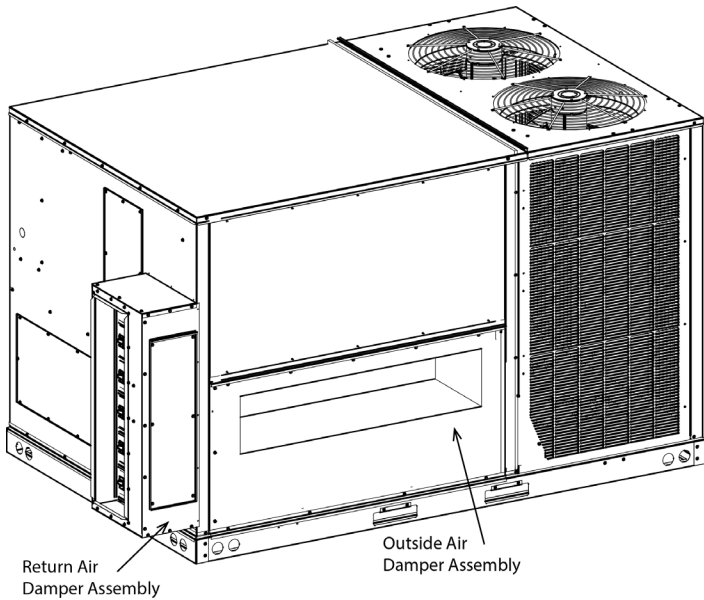

FIGURE 12 - MEDIUM DAMPER ASSEMBLIES
- Mount the return air damper assembly and the outside air damper assembly to the unit using screws removed in steps 3 and 4 (see Figure 12).